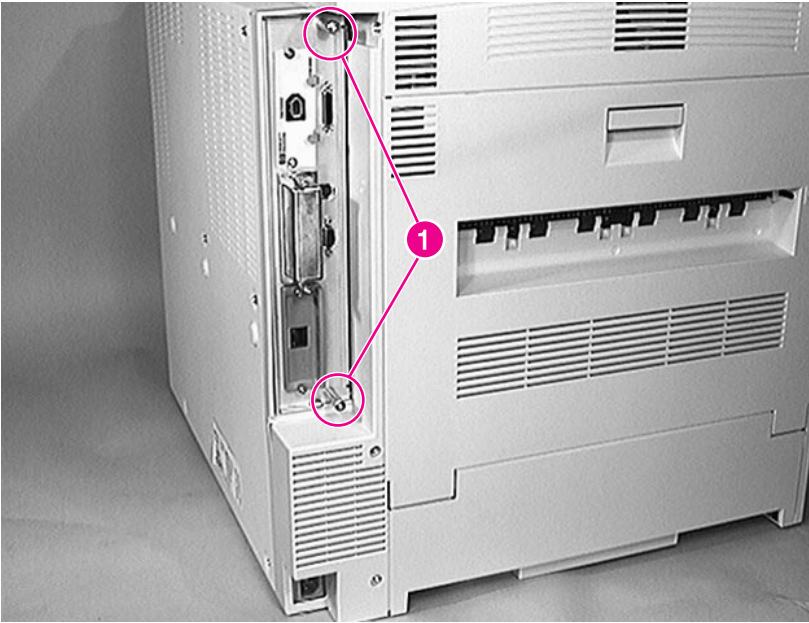

Figure 6-35 **Formatter Assembly**
- 2 Loosen the two captive screws (figure 6-35, callout 1), and slide the Formatter PCA out of the chassis.
- 1 Remove the Formatter Assembly (see figure 6-35 on page 251).
- Formatter Assembly (see figure 6-35 on page 251)